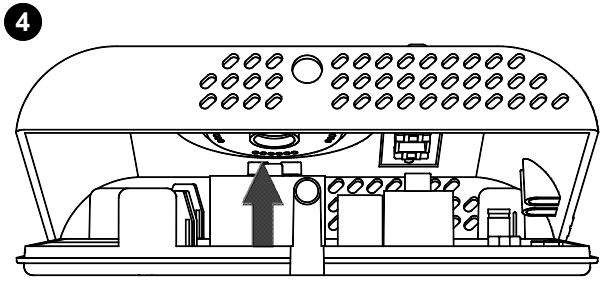

Fig. 5 - Abb. 5
- 4 Turn the cover, while pressing it slightly, until it is fully extracted (Fig. 5).